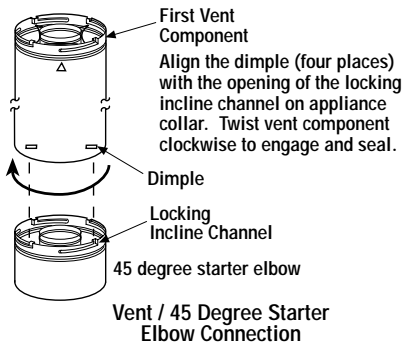

Figure 15
D. Attach vent components to 45 degree starter elbow - Secure Vent SV4.5 direct vent system components are unitized concentric pipe components featuring positive twist lock connections (see Figure 15).
To attach a vent component to the 45 degree starter elbow, align the dimpled end over the elbow, adjusting the radial alignment until the four locking dimples are aligned with the inlet of the four inclined channels on the collar (refer to Figure 15).
Secure Vent SV4.5 direct vent system components are unitized concentric pipe components featuring positive twist lock connection, (refer to Figure 15 and 16 on page 12). All of the appliances covered in this document are fitted with collars having locking inclined channels. The dimpled end of the vent components fit over the appliance collar to create the positive twist lock connection.
To attach a vent component to the the starter elbow, align the dimpled end over the collar, adjusting the radial alignment until the four locking dimples are aligned with the inlets of the four incline channels on the collar (refer to *Figure 15 on page 12*).